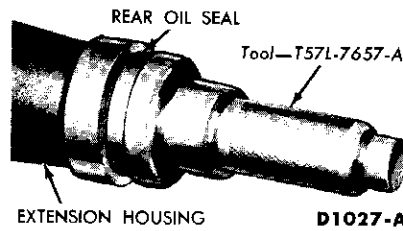

FIG. 5—Extension Housing Rear Seal Installation
7. Drive the seal into the housing with the tool shown in Fig. 5. The seal should be firmly seated in the bore. Install the drive shaft.